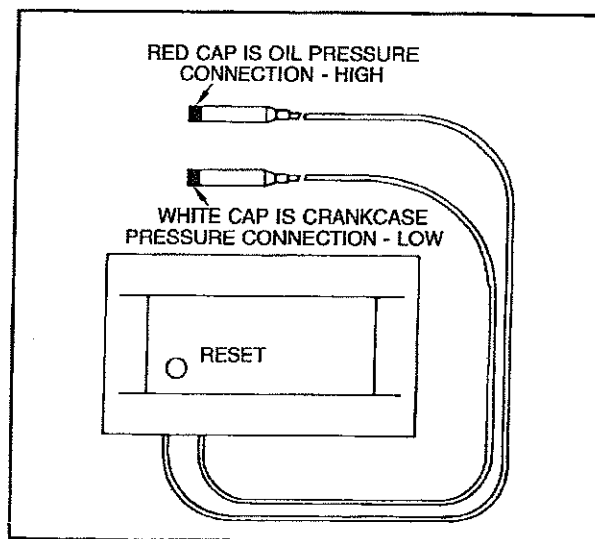

FIGURE 40 - Oil Pressure Control (Model R Compressor)
The motor protector/oil pressure control provides dual protection for the Model R compressor. This control will shut down compressor operation in the event of low oil pressure and/or high winding temperature. See Figure 40.
Terminals T1 and T2 are connected to 115-volt control power. Terminals M1 and M2 are connected to the operating and safety circuit of the compressor contactor (MC). If a prolonged period of low oil pressure causes contacts of the control to open, they are closed by operating the control reset pushbutton. See Figure 40. Allow a 5 to 10-minute cooling period before resetting the control contacts.